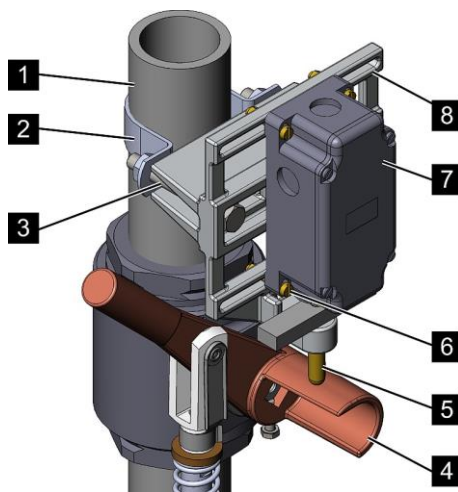

Fig. 107: Mounting the limit switches
3. ➤ Place the pipe clamp (Fig. 107/2) around the output pipe (Fig. 107/1) of the selector valve.
4. ➤ Insert the hex bolts (Fig. 107/3) through the bracket (Fig. 107/8) of the limit switch and of the pipe clamp (Fig. 107/2).
6. ➤ Align the bracket (Fig. 107/8) of the limit switch in such a manner that the tappet (Fig. 107/5) rests on the eccentric of the operating element (Fig. 107/4).
7. ➤ Tighten the hex bolts (Fig. 107/3).
8. ➤ Place the limit switch (Fig. 107/7) with the bolts (Fig. 107/6) on the bracket in such a manner that the bolts fit through the slotted holes of the bracket (Fig. 107/8).